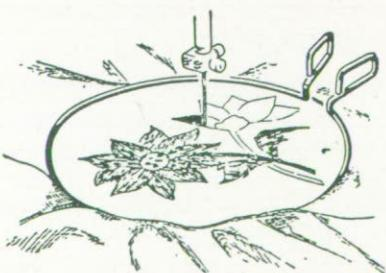

Fig. 55
- Move hoop slowly, but only when needle is out of fabric and holding both threads for the first stitches (Fig. 55).